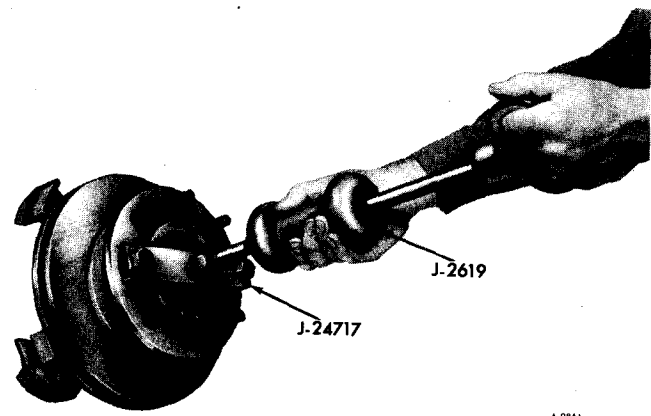

Figure 10—Hub and Disc Removal
9. Position Tool No. J-24717 on hub as shown in figure 10.
10. Operate slide hammer Tool No. J-2619, until assembly is free of knuckle. See figure 10.